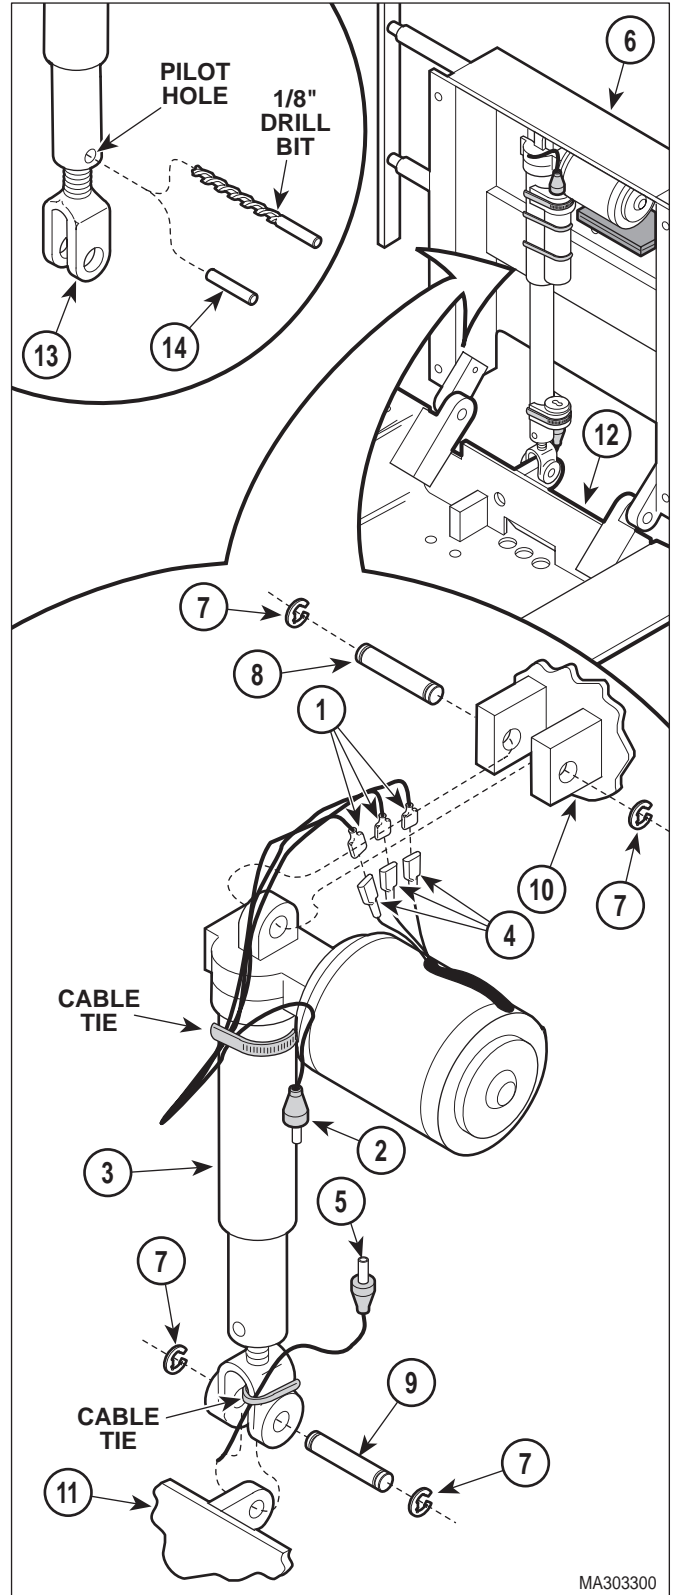

Figure 4-12. Back Actuator Removal / Installation
- (1) If possible, lower BACK DOWN function all the way down.
- (2) Remove back actuator transmitter and receiver (Refer to para 4.11).
- (3) Cut cable tie securing three wires (1, Figure 4-12) and receiver cable (2) to shaft of back actuator (3).
- (4) Tag and disconnect three wires (1) from actuator wires (4).
- (5) Cut cable tie securing transmitter cable (5) to shaft of back actuator (3).